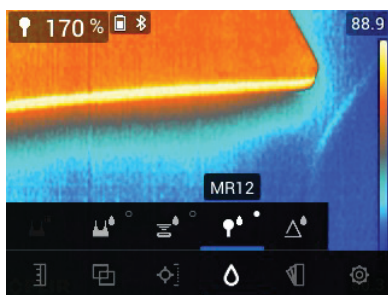

Figure 7.12 Selecting the MR12 (optional Ball Moisture probe) mode
MR12 mode must be selected when the optional MR12 Ball Moisture probe is used. Connect the MR12 to the accessory RJ jack on the bottom of the MR277 (under the protective flap) and then select the MR12 from the Moisture Mode menu as shown in **Figure 7-12**.
2. Select the MR12 probe option in the menu (*Moisture Mode/MR12*); see **Figure 7-12** above.